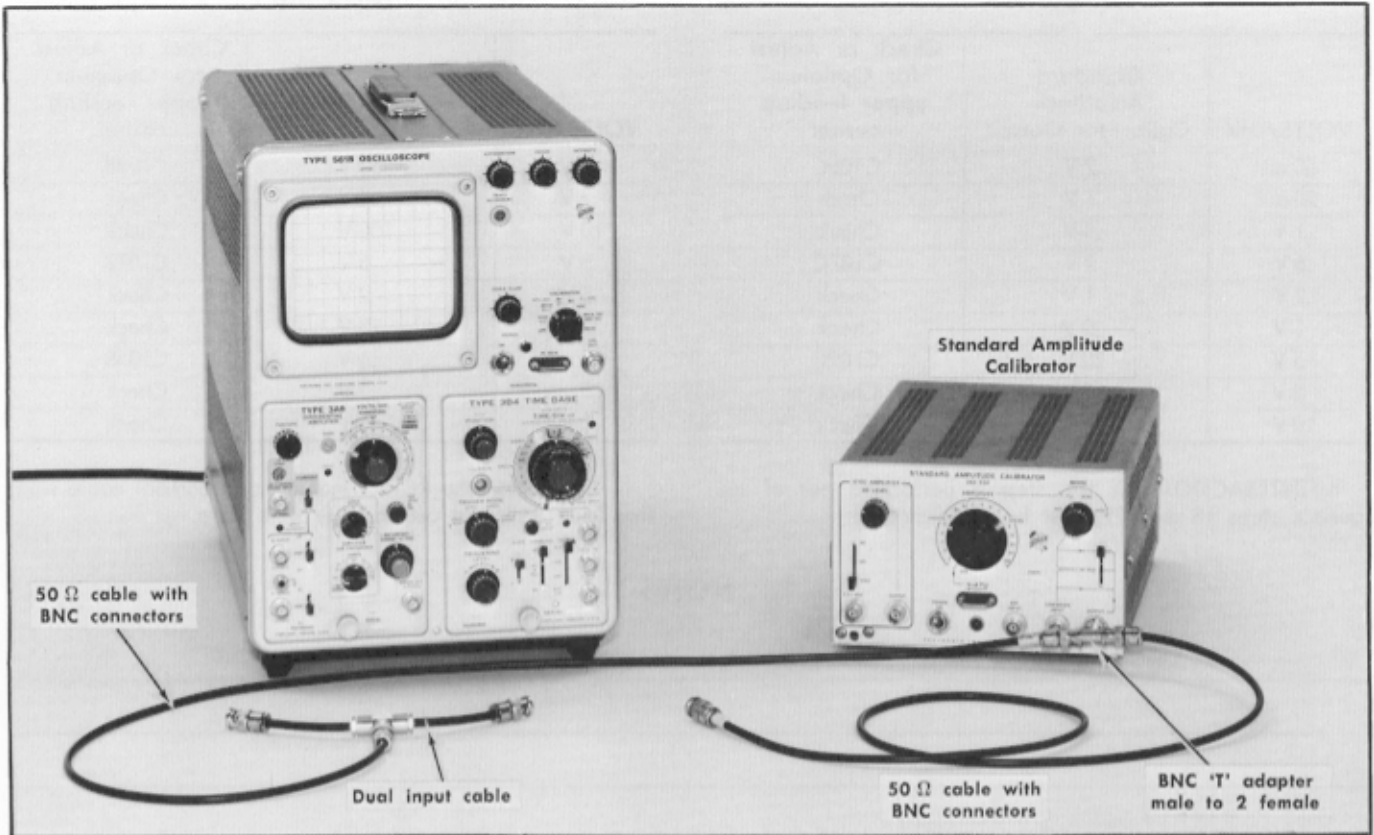

Fig. 5-25. Equipment required for step 20.
**20. Check or Adjust — Input Attenuator Series Compensation** **①**
- a. Test equipment is shown in Fig. 5-25.